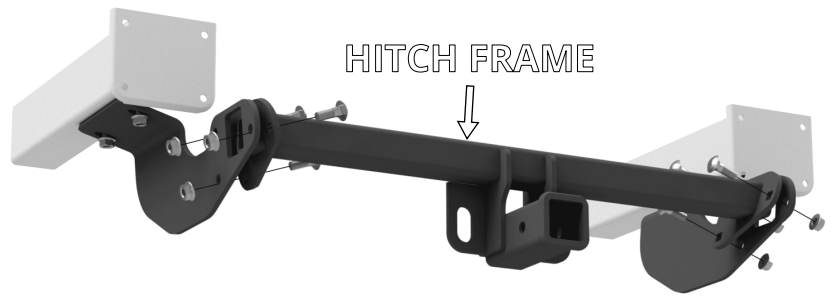

FIGURE B2: VIEW UNDER THE REAR OF THE VEHICLE
8. Raise the hitch frame up under the fascia and between the side plates, as shown in Figure B2. Use six 1/2" x 1-1/4" carriage bolts and six 1/2" flange nuts to secure the hitch frame to the side plates.